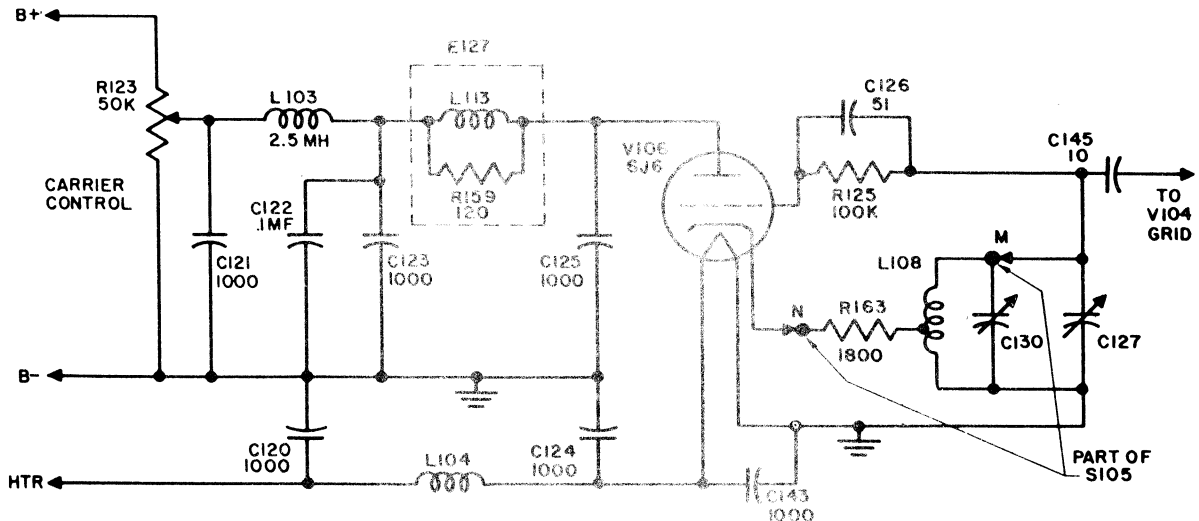

Figure 2-2. Simplified Schematic Diagram of the Carrier Oscillator
(See figure 2-2).
- (1) Selects applicable "inductance-capacitance" combination.
- (2) Selects proper grid leak resistance and blocking capacitance combination for V-106.
- (3) Shorts to ground "inductance-capacitance" combinations not utilized at the selected frequency band.
c. The principal electrical features of the carrier oscillator are shown in the simplified schematic diagram, figure 2-2. For purposes of simplifying the circuit analysis, the mechanics of the FREQUENCY BAND SWITCH (S-105) have not been included in this figure. M and N represent the contact positions of the FREQUENCY BAND SWITCH (S-105) when set at band E. The details of the carrier oscillator are covered in the overall schematic diagram (figure 6-22) near the end of Section 6.
d. The oscillator tube (V-106) is a type 6J6 dual triode with both sections connected in parallel. The frequency of the oscillations is determined by the L-C constant of the resonant tank circuit. The main tuning capacitor (C-127) is of the straight line frequency type, designed to give a linear frequency change with rotation except at the extreme ends of the frequency range. All frequency bands, with the exception of the highest band (H), can be calibrated by adjustment of the associated trimmer capacitor and variable iron core inductance. If necessary, band H can be calibrated by varying the spacing between the turns of L-105. This is discussed in Section 6, par. 9.